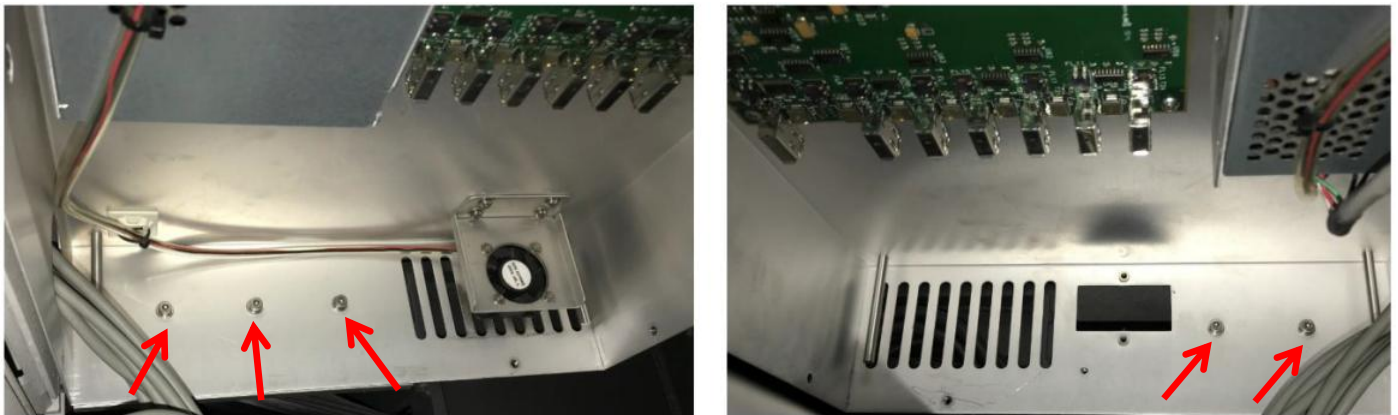

Figure 22 Trigger Board Tray assembly
7. Assemble entire Trigger Board Tray to origin location. Tighten 5 x screws at Trigger Board Tray as below Figure 22